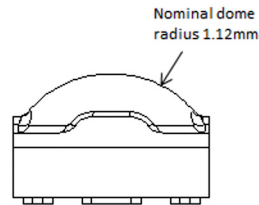

Figure 15: LUXEON SunPlus 20 nominal dome radius.
The optimal way to pick up LUXEON SunPlus 20 is from the dome. Care should be taken not to damage the dome during pick and place. As a reference the dome of LUXEON SunPlus 20 has a radius of 1.12mm and the typical A Shore hardness of the dome is 86 (Figure 15). In general, materials such as polyurethane (PU) and polyether ether ketone (PEEK) with A Shore hardness close to the LUXEON SunPlus 20 dome hardness will be a good starting choice of material for a pick and place nozzle. Anti-stick coating (optional) can be applied if units (sporadically) stick to the nozzle.